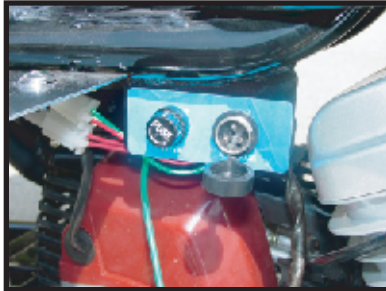

Fig. 1
3. PLUG the POWER INPUT CORD into the GAS CHOPPER SCOOTER™ charging receptacle. (Fig. 1)